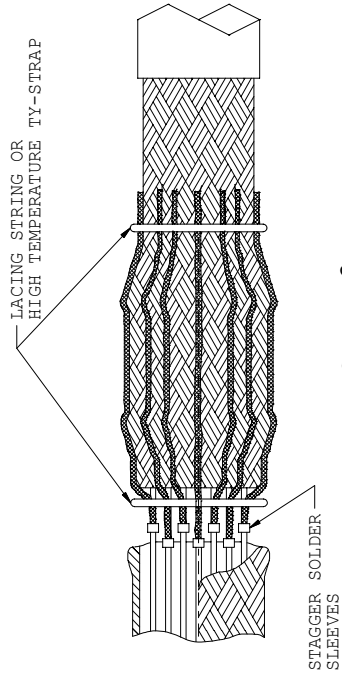
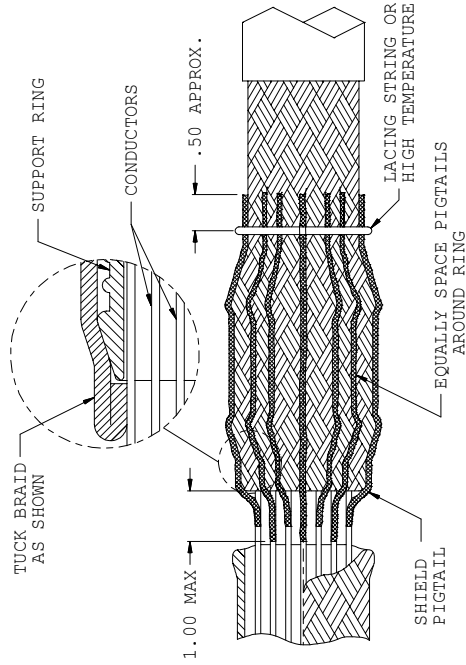

FIGURE 3
FIGURE 2
8. EVENLY SPACE SHIELD PIGTAILS (FIGURE 2) OR SOLDER SLEEVE PIGTAILS (FIGURE 3) AROUND SHIELD SUPPORT RING. CUT PIGTAILS SO THAT END OF PIGTAILS ARE APPROXIMATELY .50 BEYOND END OF SHIELD SUPPORT RING.